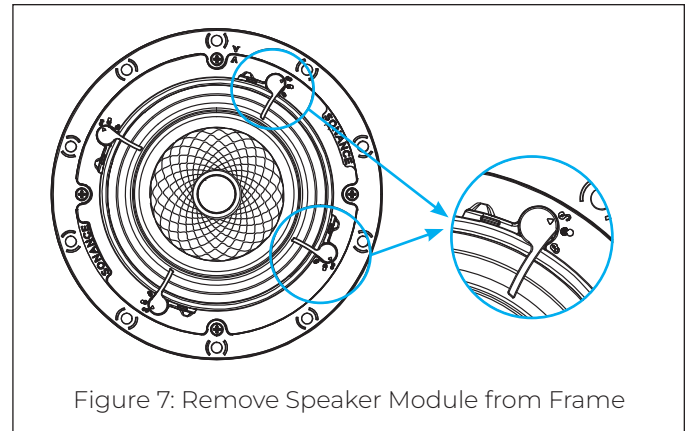

Figure 7: Remove Speaker Module from Frame
2. Remove the speaker module from the frame (see Figure 7).